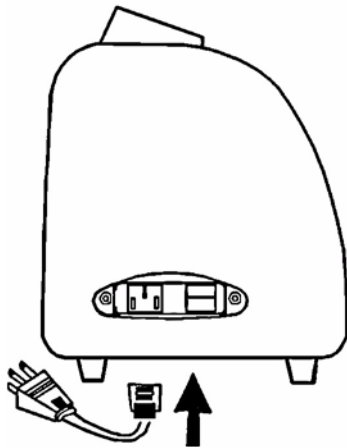

Figure 1
- 2 Connect the power cord. See figure 1.